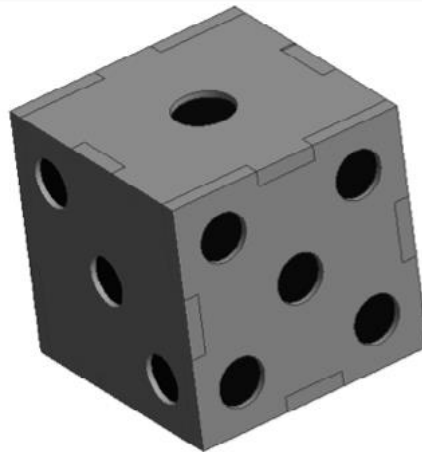

Figure 25
- Once you have placed all the parts and constrained them, you should end up with the completed die as shown in Figure 25. Save your work.